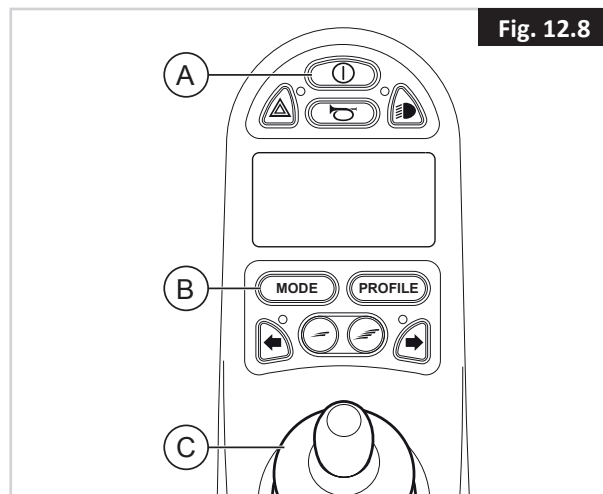

Fig. 12.8
1. Switch on the controller (A in Fig. 12.8)